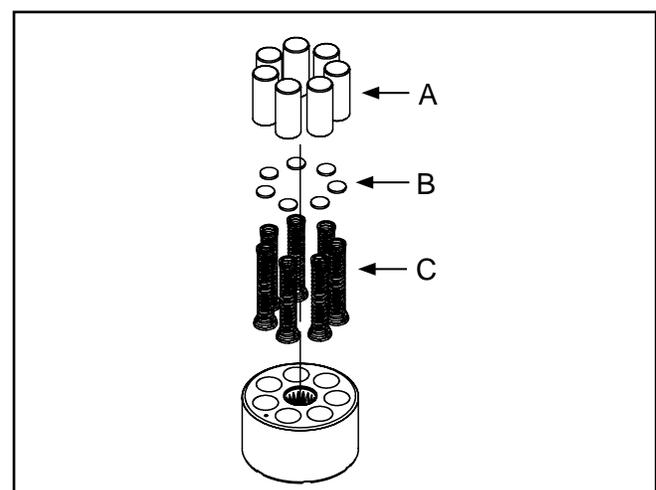

Figure 16.
9. **(See Figure 16)** Check each piston for proper operation by pressing the pistons in and releasing them in the block bore. Disassemble the pump cylinder block. Check for piston/block wear in the cylinder bore. Inspect the pistons (A), piston springs (C) and thrust washers (B) for excessive wear or damage. NOTE: Thrust washers may be held in place in the piston by residual oil.